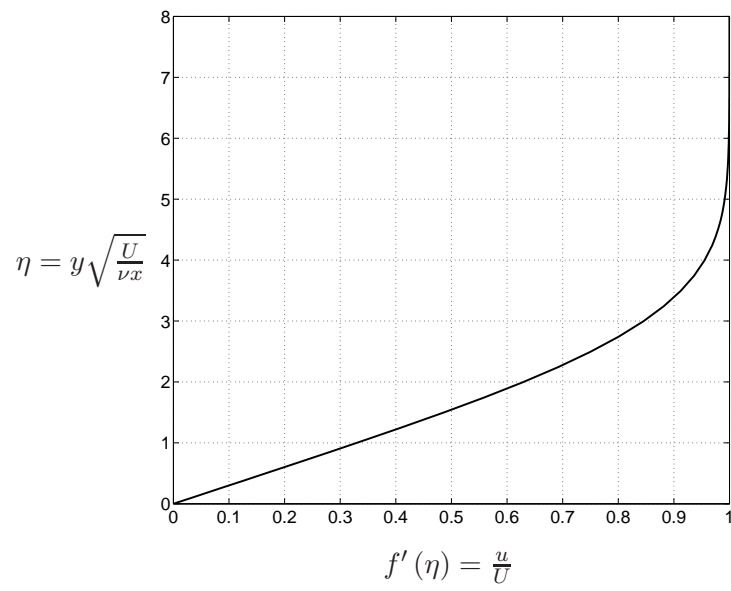

Figure 3: Blasius solution.
- Estimate the downstream position x of the pitot tube. Assume laminar flow, so you can use the Blasius solution given in Figure 3.
What is the shear stress at the wall? *Hint:* use Figure 3 to determine the derivative.